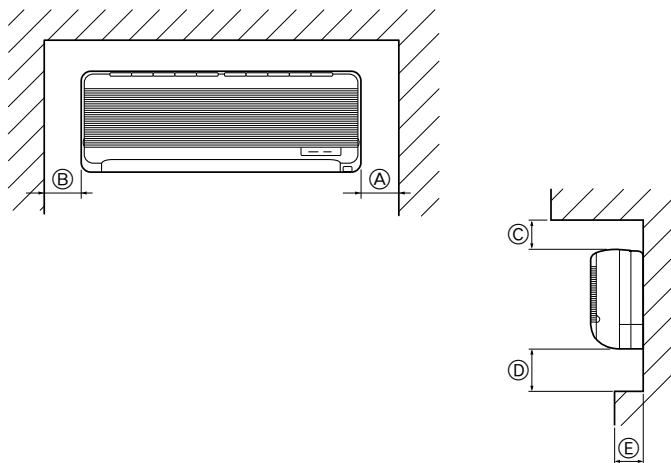

Fig. 2-1
①	Wall-fixing bracket	1	Fix at the back of the unit
②	Tapping screw 4 × 35	8	Set in packing material
③	Felt tape	1
④	MA remote controller cable	1
2.1. Outline dimensions (Indoor unit) (Fig. 2-1)